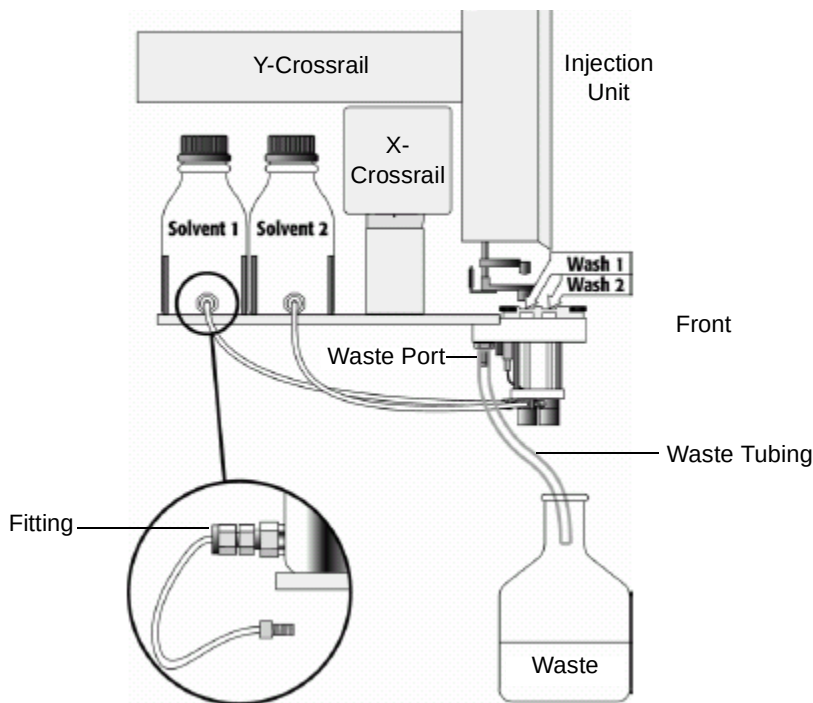

Figure 2-12 Installing the Solvent Bottles (Left Side View)
4. Attach the clamp on the wash station module to the grooves underneath the X-crossrail, as closely as possible to the injection valve (Figure 2-12).